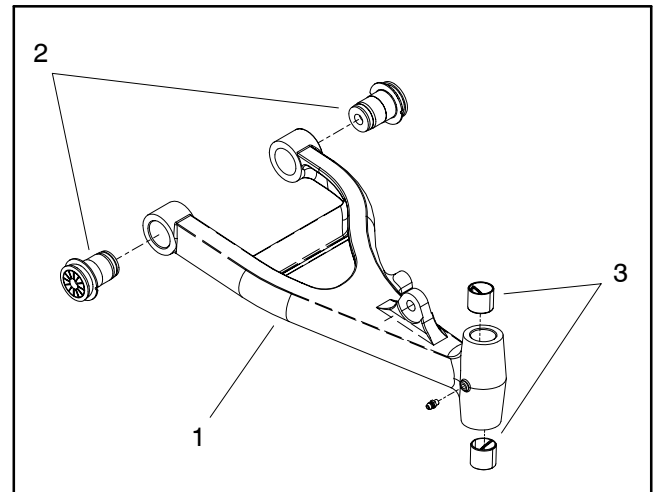

Figure 8
4. Remove cap screw (item 7), flat washer (item 5) and lock nut (item 6) that secure lower end of shock absorber to A-arm.
6. Remove both cap screws (item 19) and lock nuts (item 6) that secure A-arm to frame. Pull A-arm from frame.
7. If necessary, remove flange bushings and straight bushings from A-arm bores (Fig. 8).
1. If bushings were removed from A-arm, press new bushings fully into bore of A-arm (Fig. 8).
3. Position A-arm to the frame. Secure A-arm to the frame with cap screws (item 19) and lock nuts (item 6). Insert front screw from front of machine and rear screw from rear of machine. Do not fully tighten nuts.
4. Position lower end of shock absorber to A-arm and insert cap screw (item 7) with flat washer (item 5) from rear of shock. Secure with lock nut (item 6).
5. Fully tighten lock nuts (item 6) to secure A-arm to machine frame.